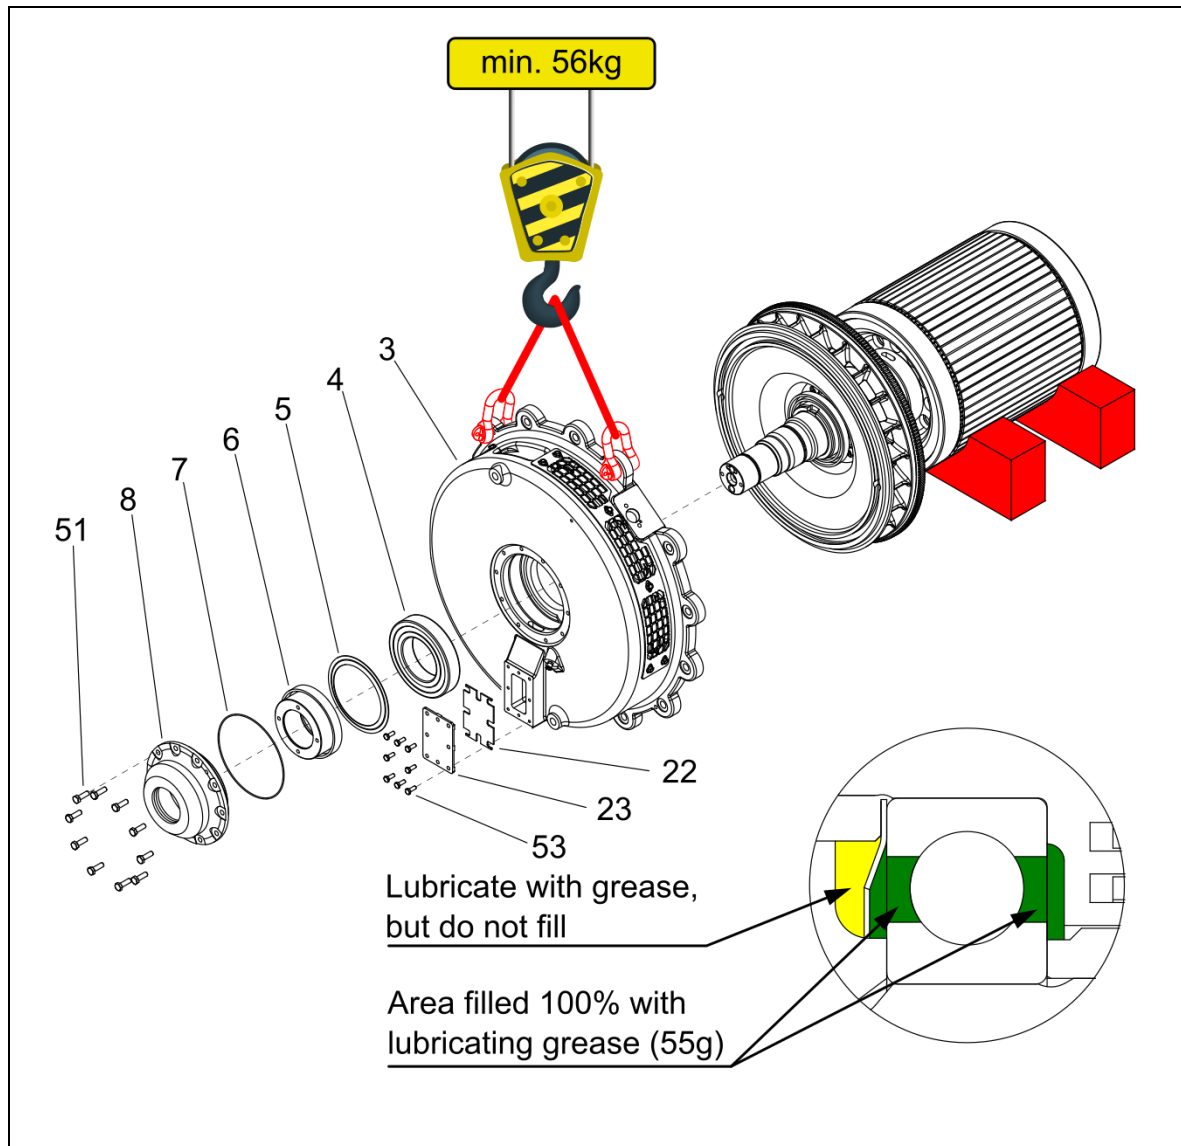

Figure 40: Assembling the bearing shield DE
- 1 Attach the bearing shield DE (3) to the rotor's shaft and secure it in place.
- 2 Lubricate the assembly according to the detail in Figure 40.
- 3 Press the deep groove ball bearing (4) to the bearing shield (3) and rotor's shaft.
- 4 Lubricate the bearing according the Figure 40.
- 5 Lubricate the grease retaining ring (5) lightly and attach it.
- 6 Lubricate the assembly according the Figure 40.
- 7 Press the labyrinth ring DE (6) to the rotor's shaft.
- 8 Attach the O-ring (7).
- 9 Apply some thread locker to the threads of ten hexagon head screws (51).
- 10 Attach the bearing cover DE (8) and fasten with ten hexagon head screws (51).